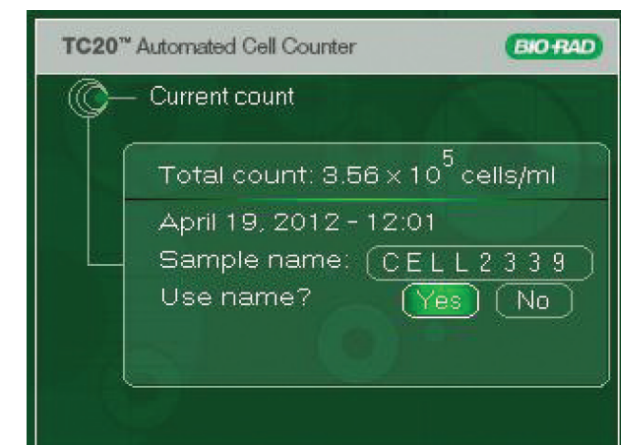

Fig. 14. Sample naming.
2. At the end of the count you will be prompted to select a sample name (Figure 14). Use the **up** or **down** arrow key to scroll through the list of characters until you find the correct one. Then press **Enter** to confirm the selection.